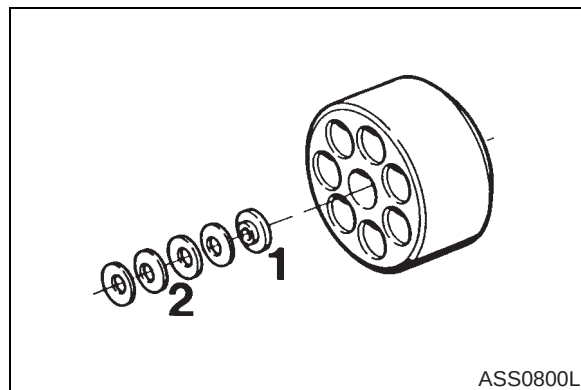

Figure 81
3. Insert spring plate (1, Figure 81) and cup springs (2, Figure 81) into their correct position (and orientation) using grease to hold them into place.